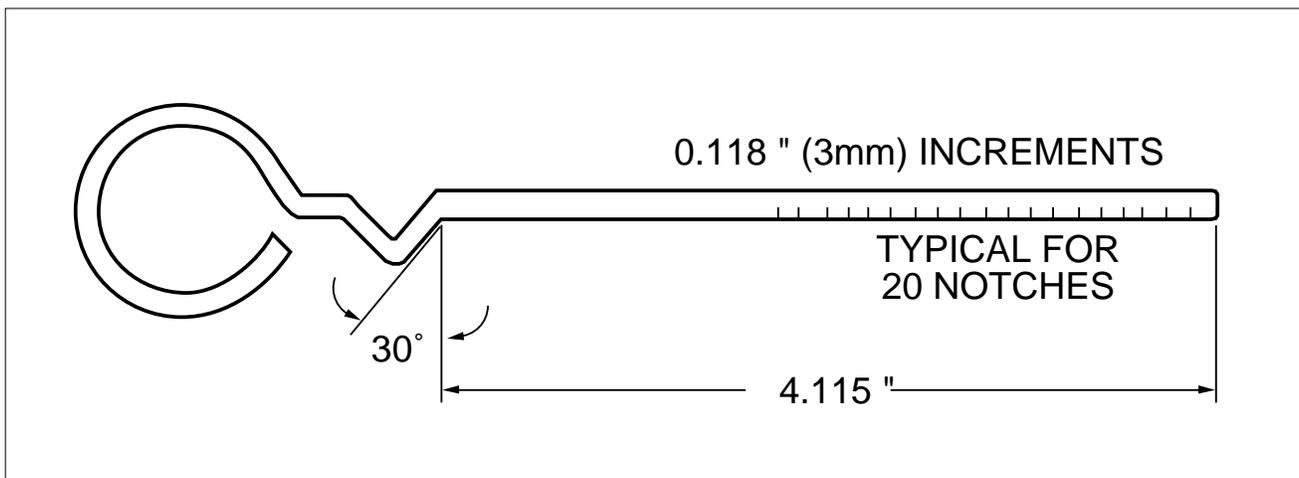

Figure 21-11. Fabricated Oil Dipstick for Sanden Compressor
- (d) Fabricate a dipstick as shown in Figure 21-11.